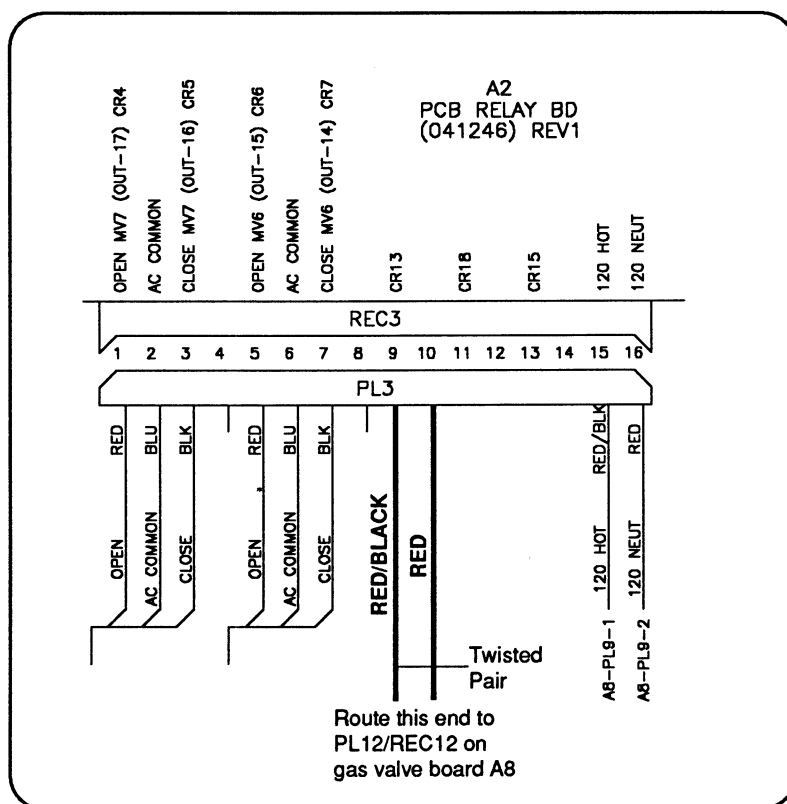

Figure 6 Wire Harness Connections at PL3/REC3 on Relay PCB A2
3. On PL3 insert wire harness red/black wire into hole location 9 and and the red wire into hole location10. Reconnect PL3 to REC3 (Fig 6).